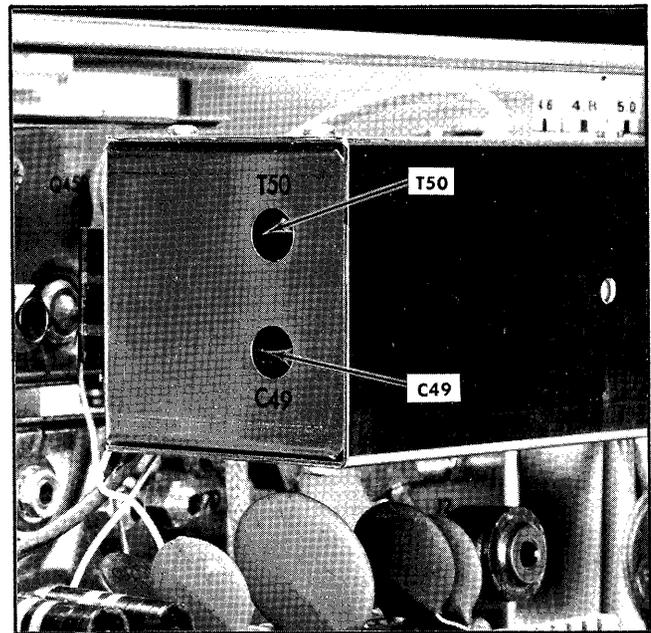

Fig. 4-20. Location of oscillator adjustments.
- i. Check the RF CENTER FREQ dial reading. If it does not read 1 mc, ± 110 kc, carefully adjust T50 (Fig. 4-20) so that the dial reading is proper when the 1 mc signal is displayed on the screen.